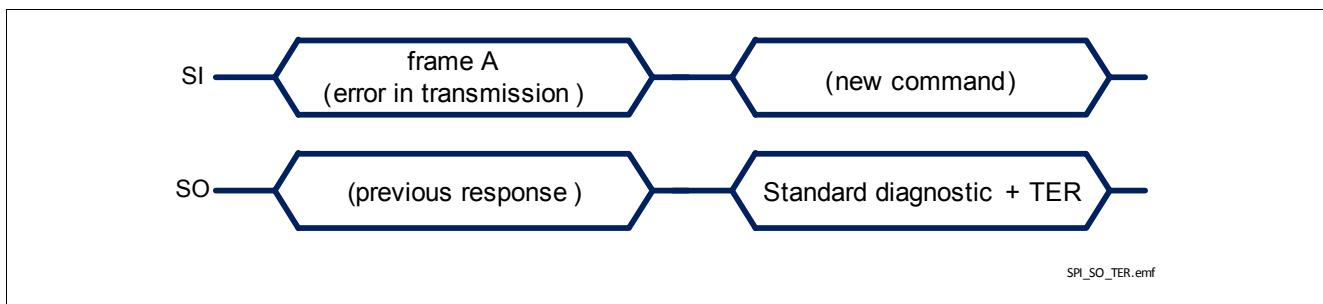

Figure 34 TLE75242-EMD response after a error in transmission
- in case an error in transmission happened during the previous frame (for instance, the clock pulses were not multiple of 8 with a minimum of 16 bits), shown in Figure 34